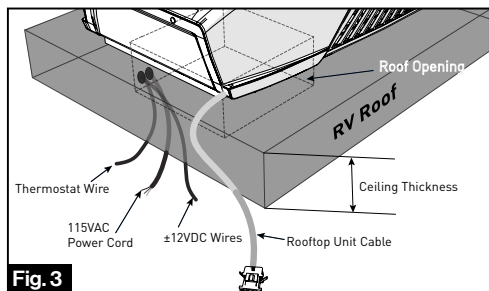

Fig. 3
2. Reach up into the return air opening and pull down the rooftop unit electric cord. Ensure all terminated wire ends specified in "Preparing Wire Connections" section are accessible. (Fig. 3)